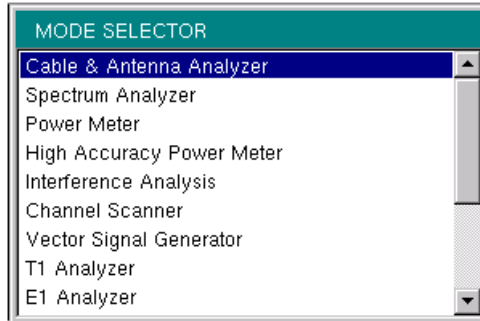

Figure 2-4. Mode Selector Menu
To access the functions under the Mode menu, select the **Shift** key, then the **Mode (9)** key. Use the directional arrow keys or the rotary knob to highlight the selection, and press the **Enter** key to select. The list of modes that appears in this menu will vary depending upon the options that are installed and activated in your instrument. Figure 2-4 is an example of the Mode menu. Your instrument may not show the same list.